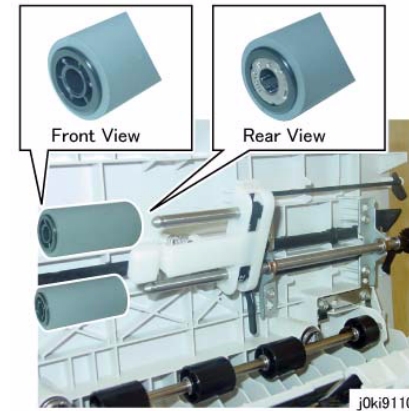

Figure 5 Align and Install the Nudger/Feed Roll
2. Install the Nudger/Feed Roll while aligning them as shown (Figure 5)